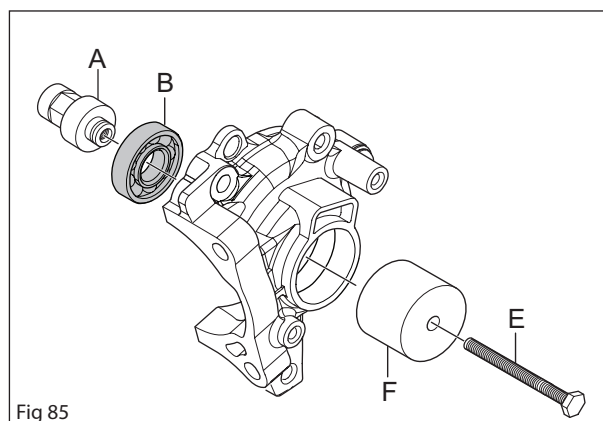

Fig 85
Use the 576 66 64-01 (A), 576 95 45-01 (F) and 725 23 80-51 (E) tools to assemble the crankcase bearing (B) and sealing ring. Fit the service tool as outlined in Figure 85. Tighten with a suitable socket spanner until the roller bearing snaps in place.